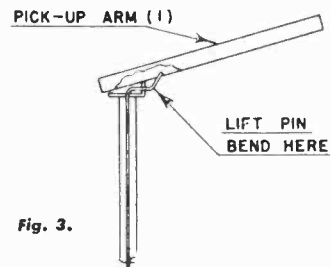
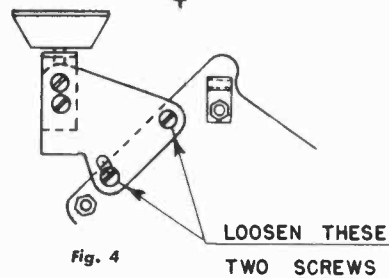

Fig. 3.
Fig. 4.
G. ADJUSTMENT OF WORM GEAR (17)
The enmeshing of the *worm gear* (17) with the *cam* (15) is regulated by the two set screws, see Figure 4. If the *worm gear* enmeshes with the *cam* too tightly, it causes binding with the resultant defective cycling.
H. LIFT PIN (25) ADJUSTMENT
Bend *lift pin* (25) so that needle will play the first record. See Figure 3 for correct bending point. When the tone arm is at its starting position, it should clear the *starter button* about 1/4 of an inch. If *lift pin* (25) is bent too far, it will not clear the records located on the shelf plate.
I. AUTOMATIC SHUT-OFF SCREW (42) ADJUSTMENT